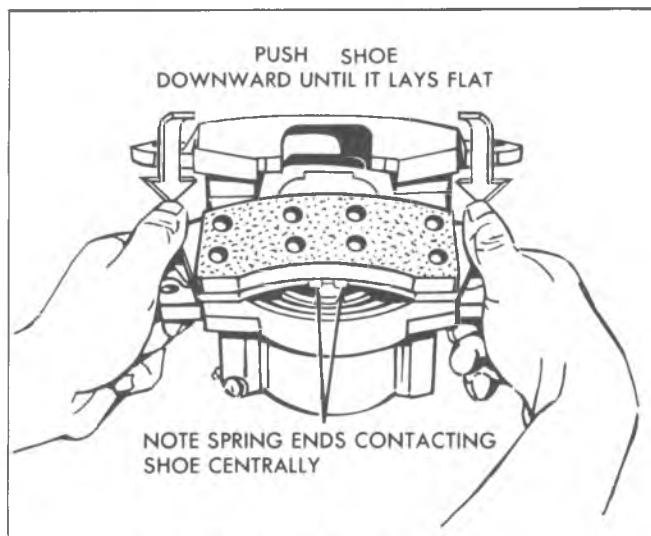

Fig. 57--Installing Shoe to Caliper
5. Push down until the shoe lays flat against the caliper (fig. 57).